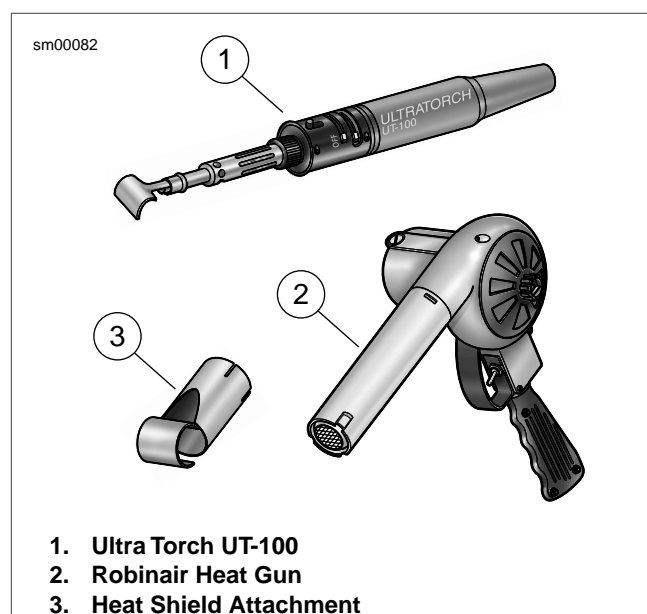

Figure 7-84. Radiant Heating Devices
6. See Figure 7-84. Using the ULTRA TORCH UT-100 (Part No. HD-39969) or ROBINAIR HEAT GUN (Part No. HD-25070) with HEAT SHIELD ATTACHMENT (Part No. HD-41183) or other suitable radiant heating device, uniformly heat the heat-shrink tubing to insulate and seal the soldered connections. Apply heat just until the meltable sealant exudes out both ends of tubing and it assumes a smooth cylindrical appearance.